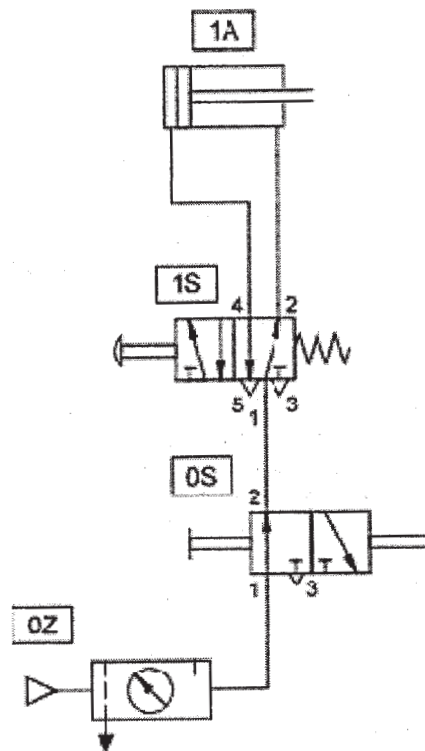

Figure 8b
b) Label the components and analyze the circuit shown in Figure 8b. **[6]**